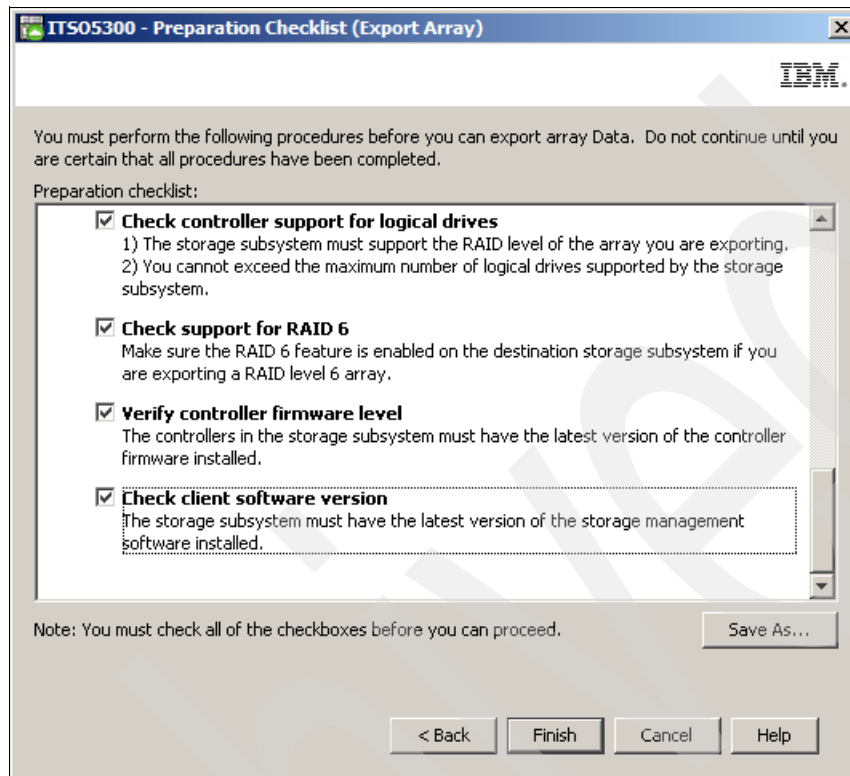

Figure 7-41 Exporting array instructions
3. The Export Array option opens a window detailing all the steps to cover before continuing the operation, as shown in Figure 7-41. The steps can be saved to a text file by clicking **Save As...**